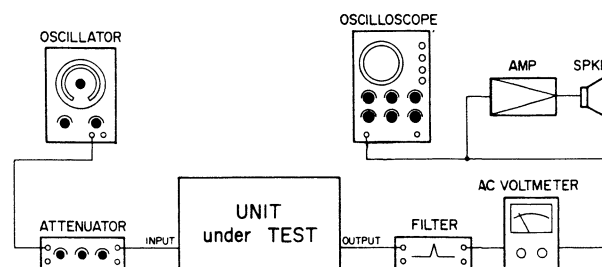

Fig. 2-17. Erase Ratio Test Set-Up
1. Connect test equipment to the tape deck as shown in Fig. 2-17.